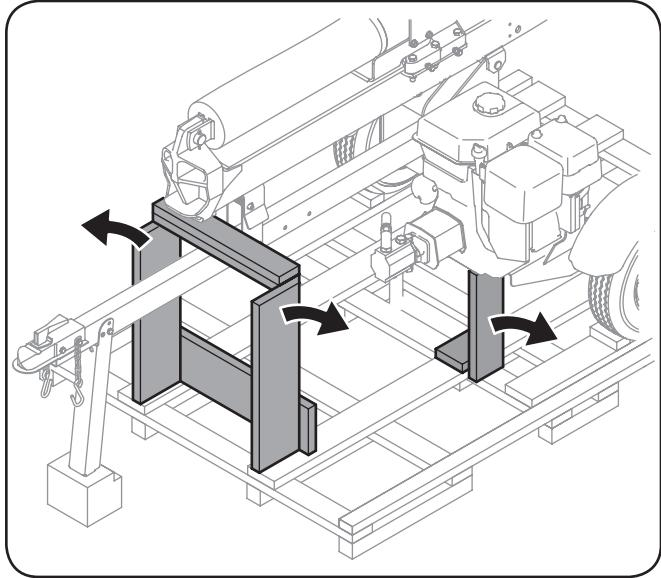

Figure 4-6
- Cut the two nylon straps securing the log splitter to the crate, one on each side of the reservoir tank, near each fender. There are also two supports found on the log splitter crate, one beneath the engine and one beneath the beam. Carefully cut and discard each tie-strap and remove and discard each support. See Figure 4-6.